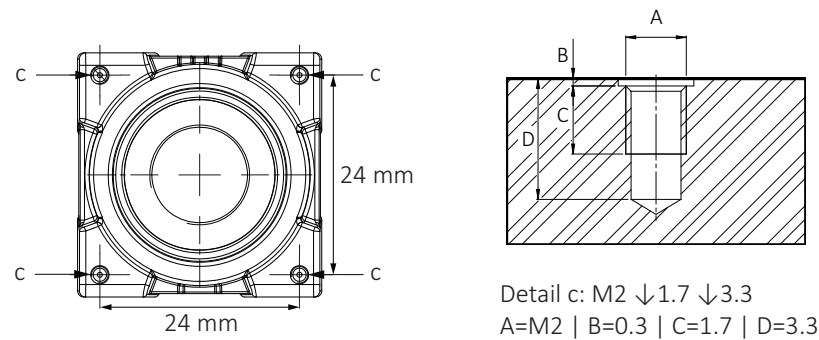

Figure 37: Camera front with mounting threads (c)
1. Mount the camera to the base using suitable M2 screws at 0.17 Nm maximum torque for a thread engagement (C) of 1.7 mm between screws and mounting threads, see Figure 37. For technical drawings, see Dimensions and mass on page 99.